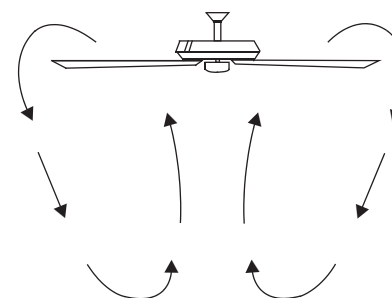

Figure 18
**Cool weather** - (Clockwise direction) An upward air flow moves warm air off the ceiling as shown in Figure 18. This allows you to set your heating unit on a lower setting without affecting your comfort.